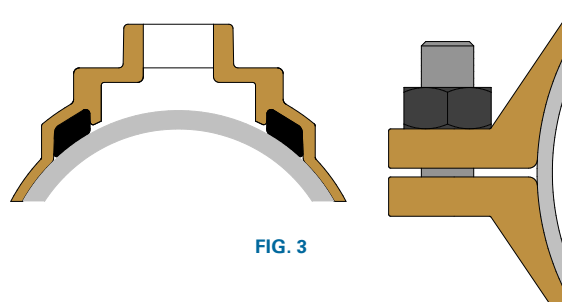

FIG. 3
6. Inspect closure - Confirm the band is square, the gasket has not extruded, and the pipe has not visibly distorted. A gap may remain between the top and bottom halves of the tapping band after tightening; this is normal and the two halves do not need to fully close together. Existing or older pipes may be slightly oval or out-of-round, resulting in uneven or visible closure gaps. Provided the fasteners are correctly tightened, the band is secure and cannot rotate or move on the pipe, a remaining closure gap is acceptable. (See Figure 3)